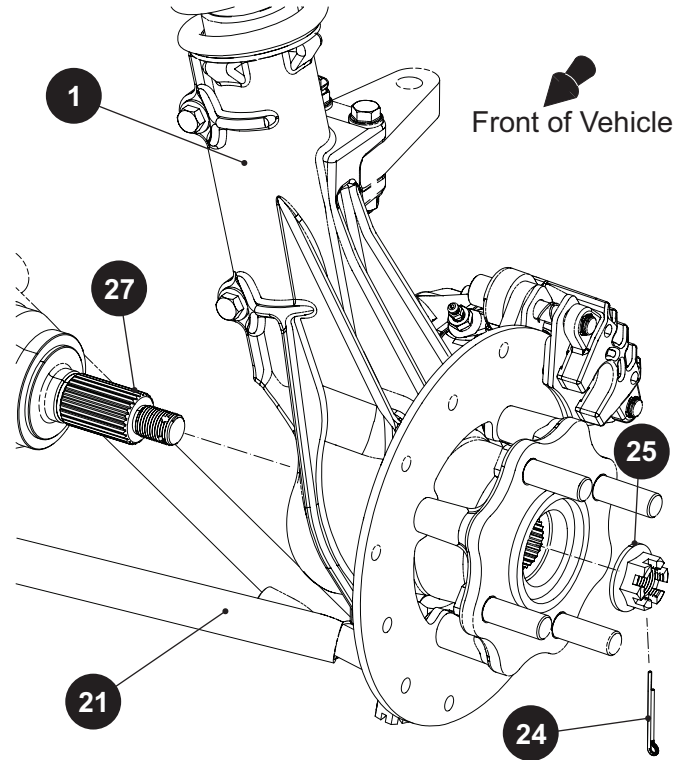

Fig. 6 CV Axle Removal
- Tap downward on the control arm assembly (21) with a plastic faced hammer, below the strut assembly (1) to separate the control arm assembly from the strut assembly (1) If necessary, use a ball joint separator.
- Remove the outer end of the front axle (27) from the front strut assembly (1) (Ref. Fig. 6).